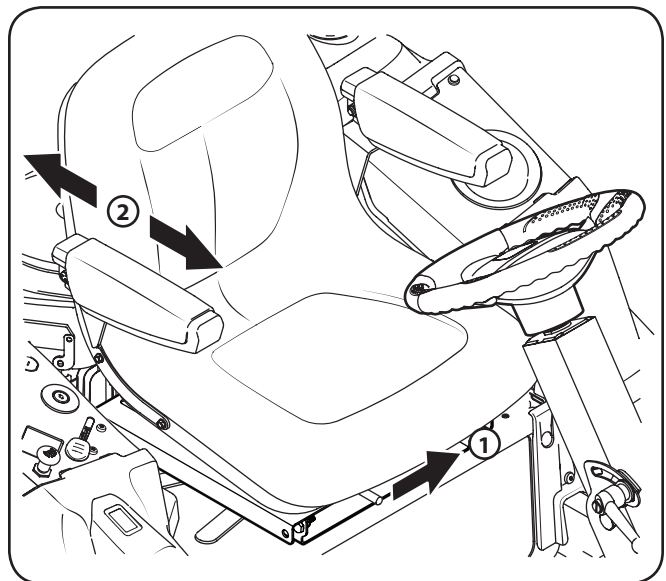

Figure 3-6
1. To adjust the position of the seat, push the seat adjustment lever to the left. See Figure 3-6.
2. Slide the seat forward or rearward to the desired position; then release the adjustment lever. Make sure seat is locked into position before operating the tractor. See Figure 3-6.